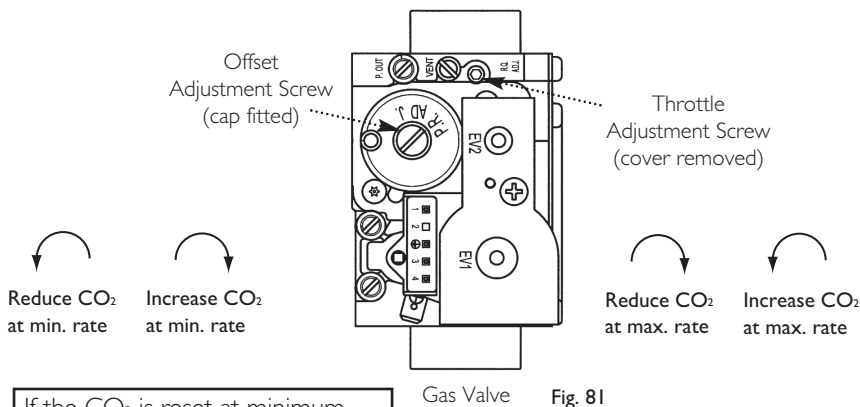

Fig. 81
10. With the boiler on minimum, the Offset Adjustment Screw must be altered, using a suitable hexagon key, after removing the cap (Fig. 81). Turning anti-clockwise will reduce the CO₂. Clockwise will increase the CO₂.